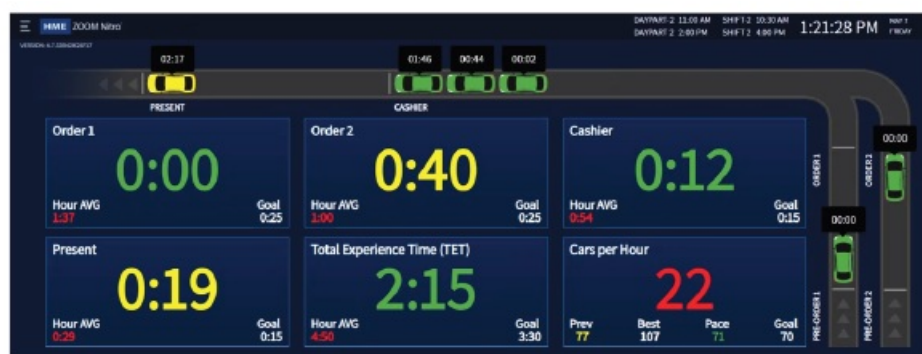

Fig. 5.10
- Return to the Dashboard to see the affected change. See Fig. 5.10 (lower middle pane).